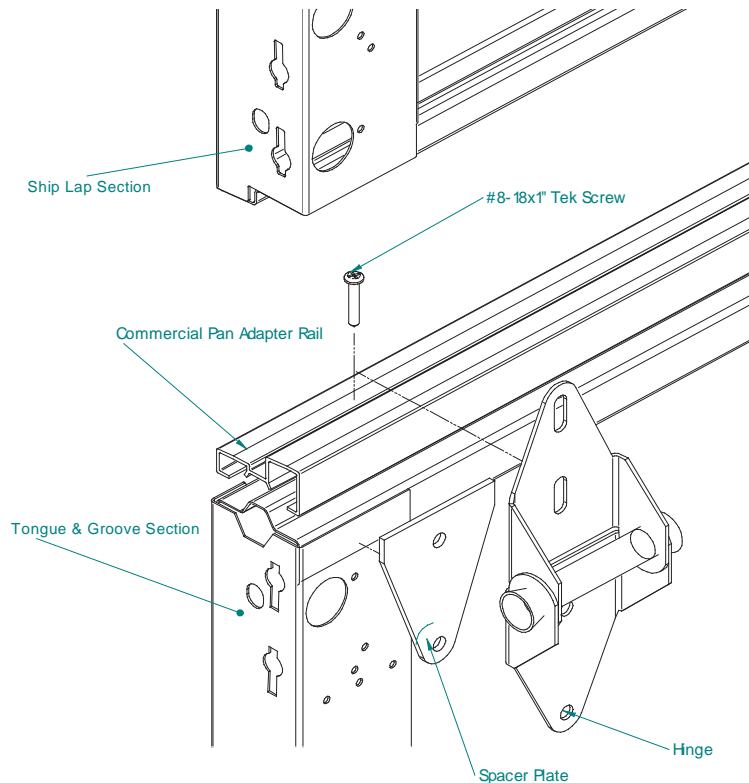

FIGURE 1
Step 2: Attach Rail. Screw Pan Adapter Rail to top of the Tongue and Groove section using #8-18 x 1" Tek screws so that fronts of rails, skins and sides are flush. Position the Tek screws approx. 24" apart across entire width of door section. (Fig 1)